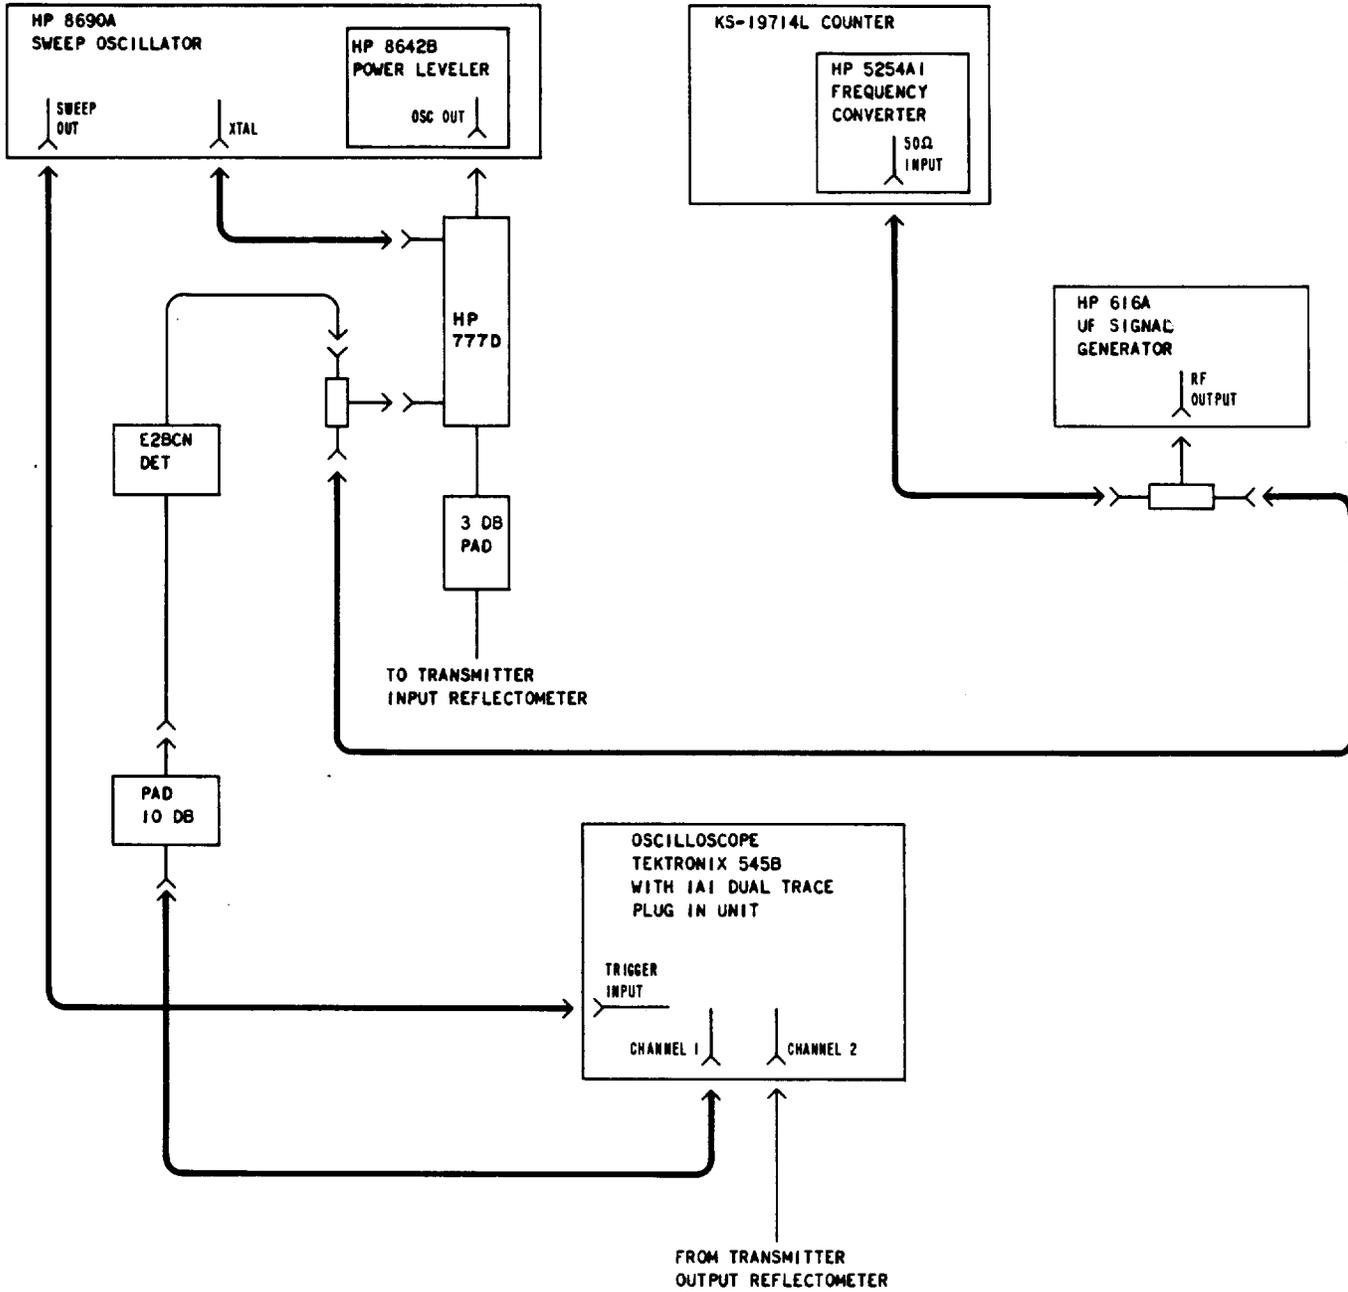

Fig. 5—Broadband Test Arrangement
- 36 Make test connections in accordance with Fig. 5. Set the controls on the test equipment to the following preliminary positions: